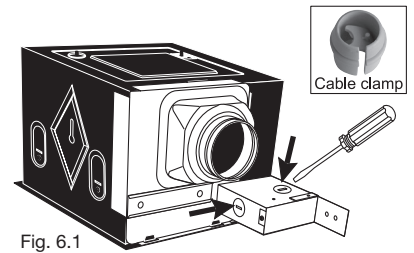

Fig. 6.1
- 1- Remove wiring compartment cover and pry out one of the knock-outs . The cable clamp (included) must be inserted through the knock-out hole. (Fig. 6.1)